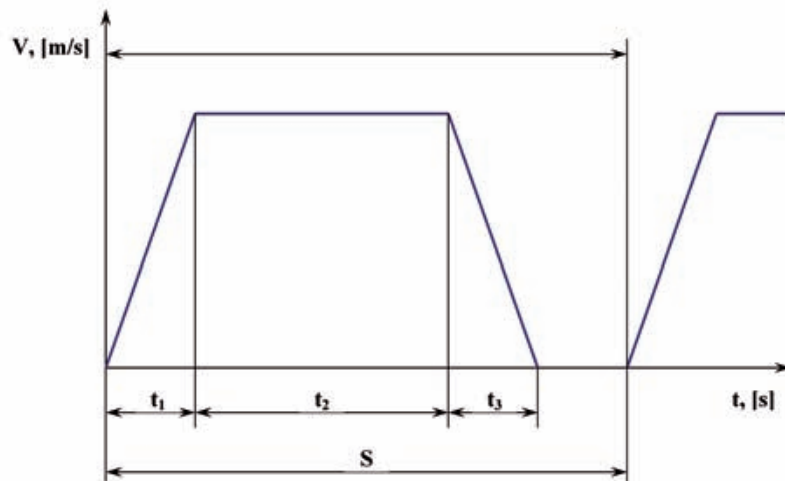

Figure 2.5 Speed/time diagram
- > Speed diagram (Figure 2.5)